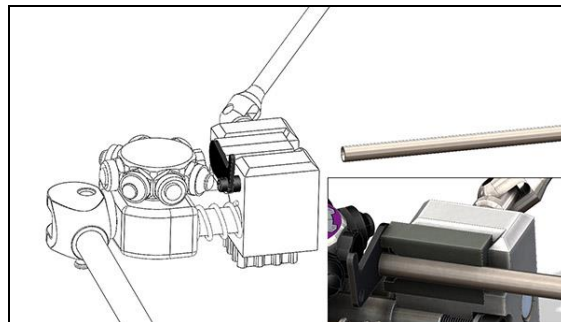

Figure 2
2. Position the setting tab over the die set hole and insert the tube until the tube is flush with the tab (**Figure 2**).
3. Tighten the die-clamp bolt and swivel the setting tab away (**Figure 2**).